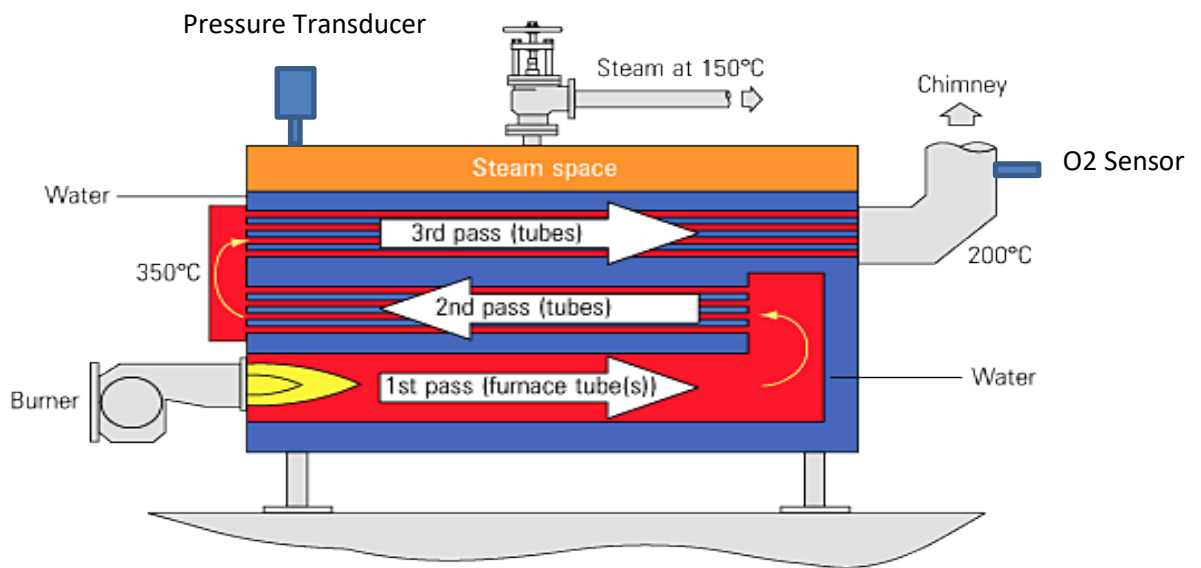

Figure 6.2 Steam boiler with Pressure Transducer and O2 sensor
- Figure 6.2 shows the steam boiler with pressure transducer and O₂ sensor.